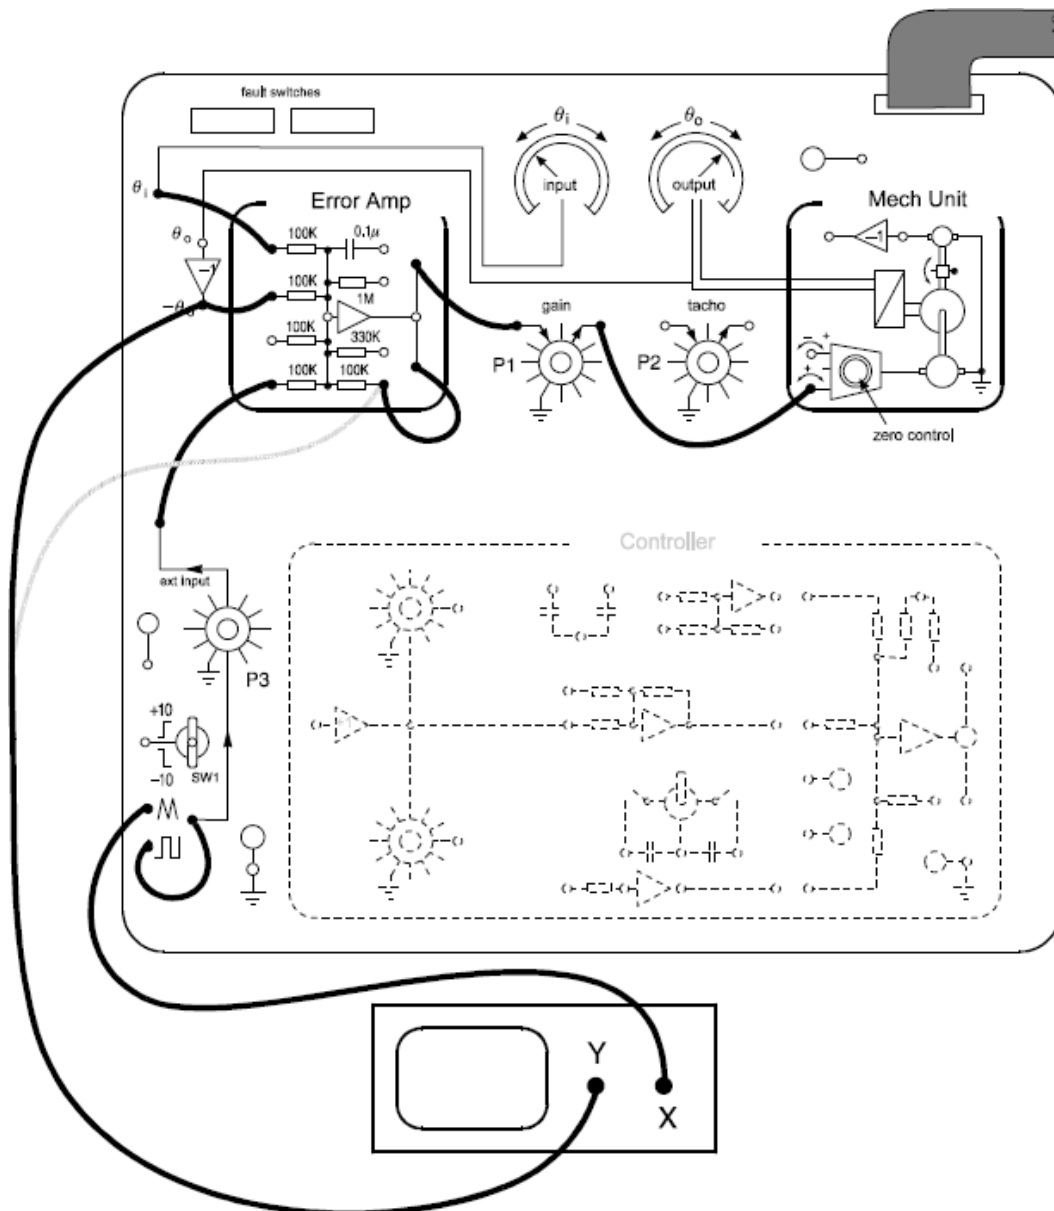

Figure 15. Connection for PART III.
1. Arrange the system with the solid connections of Figure 15, with the error amplifier feedback resistor 100 k, giving  $G = 1$ .